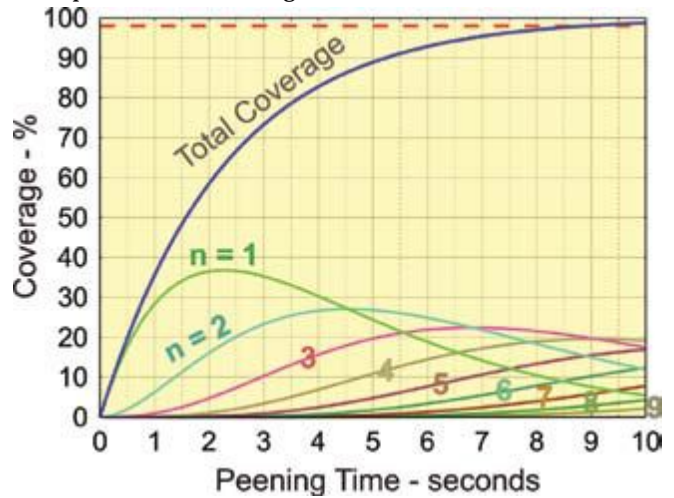

Fig. 7. Contributions of multiple overlaps to total coverage.
Fig. 7 uses equations (1) and (2) to give a graphical representation of multiple impaction contributions to total coverage. The plots are those for which *n* has values ranging